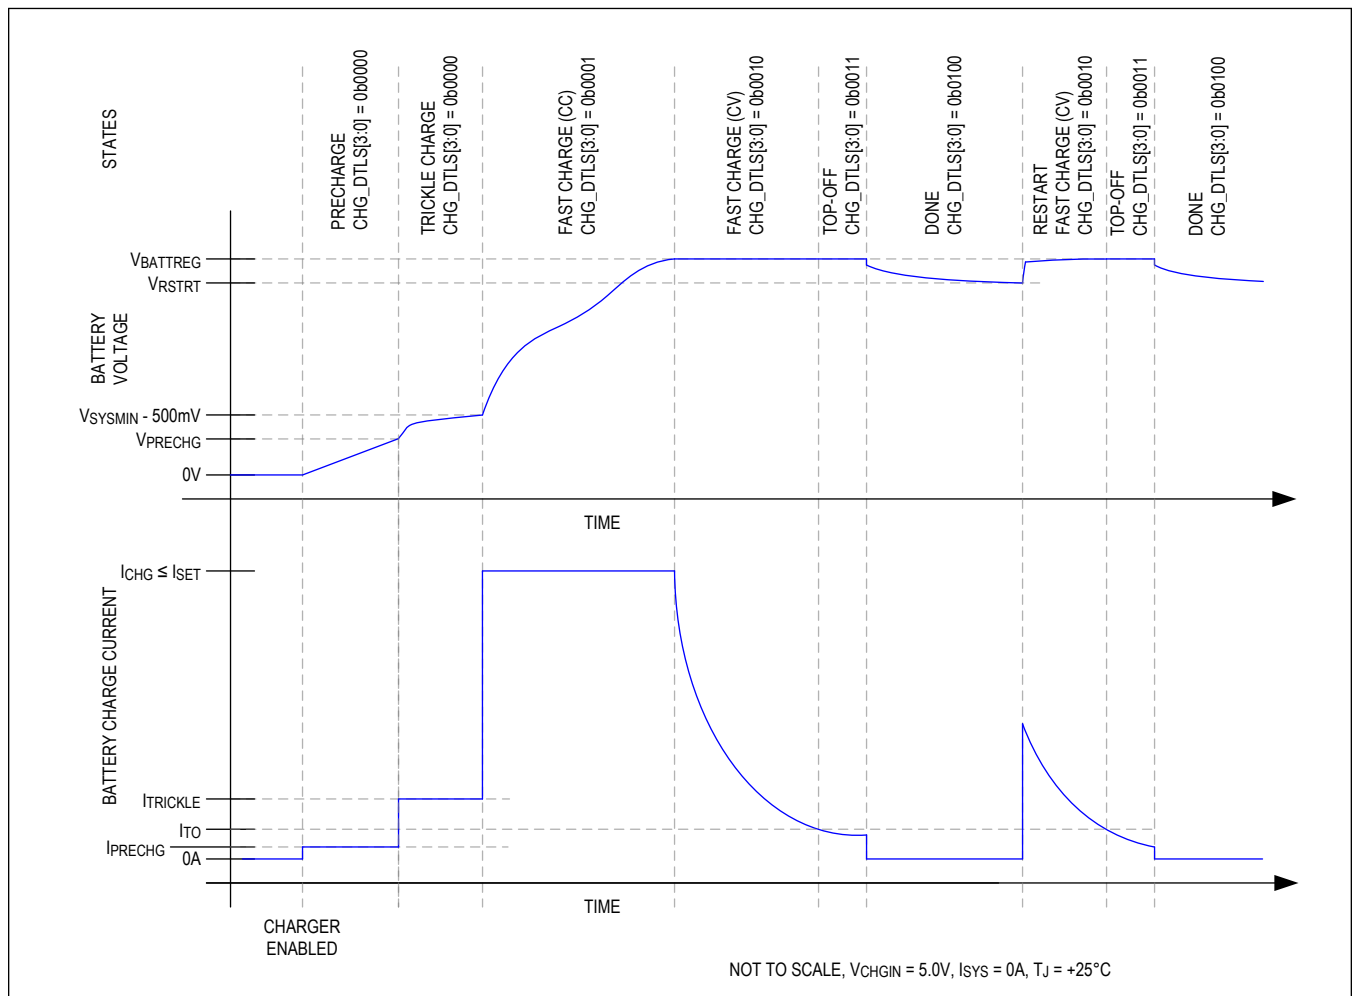
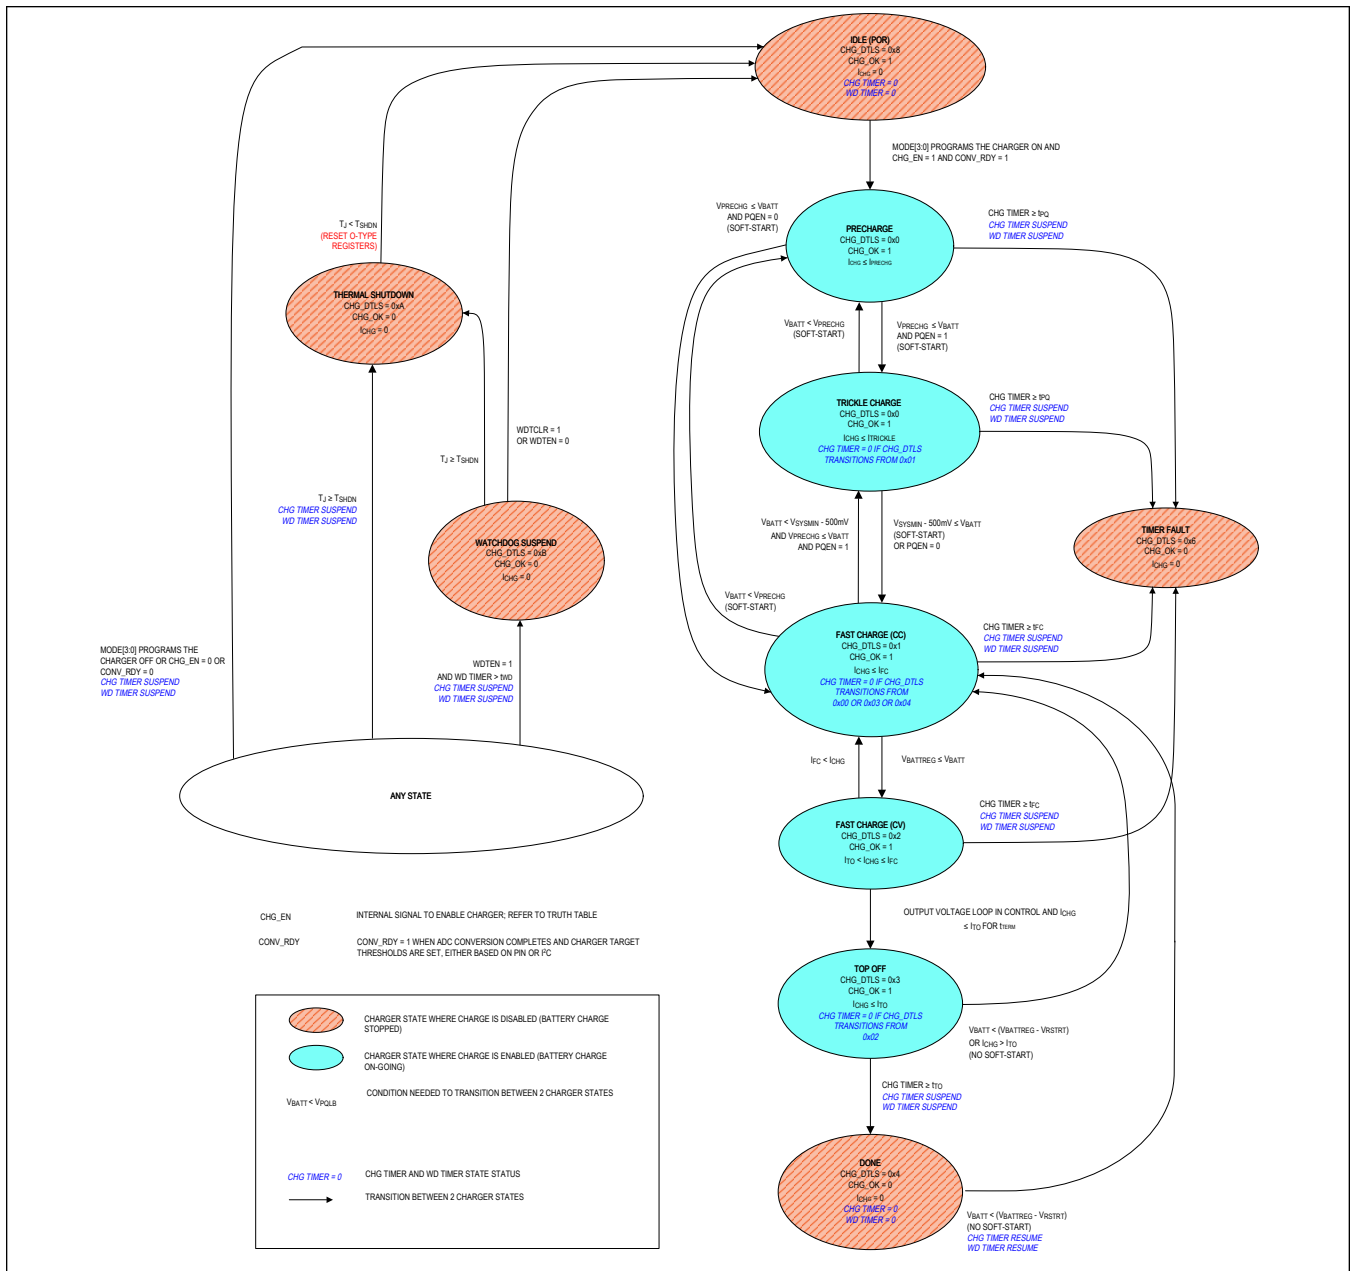

Figure 1. Li Battery Charge Profile
Figure 2. Charger State Diagram
The MAX77960/MAX77961 utilize several charging states to safely and quickly charge batteries as shown in Figure 1 and Figure 2. Figure 1 shows an exaggerated view of a Li+/Li-Poly battery progressing through the following charge states when there is no system load and the die and battery are close to room temperature: Prequalification → Fast-charge → Top-off → Done.
From any state shown in Figure 2 except thermal shutdown, the no input power or charger disabled state is entered whenever the charger is programmed to be off or the charger input CHGIN is invalid. After being in this state for tSCIDG, CHG\_DTLS is set to 0x08 and CHG\_OK is set to 1. A CHG\_I interrupt is generated if CHG\_OK was 0 previously.
As shown in Figure 2, the charger enters the precharge state when the battery voltage is less than  $V_{PRECHG}$ . After being in this state for  $t_{SCIDG}$ , a CHG\_I interrupt is generated if CHG\_OK was 0 previously, CHG\_OK is set to 1 and CHG\_DTLS is set to 0x00. In the precharge state, charge current into the battery is  $I_{PRECHG}$ .
As shown in Figure 2, the charger state machine is in trickle charge state when  $V_{PRECHG} < V_{BATT} < V_{SYSTEMIN} - 500mV$ . After being in this state for  $t_{SCIDG}$ , a CHG\_I interrupt is generated if CHG\_OK was 0 previously, CHG\_OK is set to 1 and CHG\_DTLS = 0x00.
As shown in Figure 2, the charger enters the fast-charge constant current (CC) state when  $V_{SYSTEMIN} - 500mV$  (typ)  $< V_{BATT} < V_{BATTREG}$ . After being in the fast-charge CC state for  $t_{SCIDG}$ , a CHG\_I interrupt is generated if CHG\_OK was 0 previously, CHG\_OK is set to 1 and CHG\_DTLS = 0x01.
As shown in Figure 2, the charger enters the fast-charge constant voltage (CV) state when the battery voltage rises to  $V_{BATTREG}$  from the fast-charge CC state. After being in the fast-charge CV state for  $t_{SCIDG}$ , a CHG\_I interrupt is generated if CHG\_OK was 0 previously, CHG\_OK is set to 1 and CHG\_DTLS = 0x02.
In the fast-charge CV state, the battery charger maintains  $V_{BATTREG}$  across the battery and the charge current is less than or equal to  $I_{FC}$ . As shown in Figure 1, charger current decreases exponentially in this state as the battery becomes fully charged.
As shown in Figure 2, the top-off state can only be entered from the fast-charge CV state when the charger current decreases below  $I_{TO}$  for  $t_{TERM}$ . After being in the top-off state for  $t_{SCIDG}$ , a CHG\_I interrupt is generated if CHG\_OK was 0 previously, CHG\_OK is set to 1, and CHG\_DTLS = 0x03. In the top-off state the battery charger maintains  $V_{BATTREG}$  across the battery and typically the charge current is less than or equal to  $I_{TO}$ .
As shown in Figure 2, the battery charger enters its done state after the charger has been in the top-off state for  $t_{TO}$ . After being in this state for  $t_{SCIDG}$ , a CHG\_I interrupt is generated only if CHG\_OK was 0 previously, CHG\_OK is set to 0 and CHG\_DTLS = 0x04.
The battery charger provides both a charge timer and a watchdog timer to ensure safe charging. As shown in Figure 2, the charge timer prevents the battery from charging indefinitely. The time that the charger is allowed to remain in its prequalification states is  $t_{PQ}$ . The time that the charger is allowed to remain in the fast-charge CC and CV states is  $t_{FC}$ , which is programmable with FCHGTIME. Finally the time that the charger is in the top-off state is  $t_{TO}$  which is programmable with TO\_TIME. Upon entering the timer fault state a CHG\_I interrupt is generated without a delay, CHG\_OK is cleared and CHG\_DTLS = 0x06.
The charger is off in the timer fault state. The charger can exit the timer fault state when the charger is programmed to be off then on again through the MODE bits or when DISQBAT pin is toggled from L-H-L. Alternatively, the charger input can be removed and reinserted to exit the timer fault state (see the ANY STATE bubble in Figure 2).
The battery charger provides both a charge timer and a watchdog timer to ensure safe charging. As shown in Figure 2, the watchdog timer protects the battery from charging indefinitely in the event that the host hangs or otherwise cannot communicate correctly. The watchdog timer is disabled by default with WDTEN = 0. Enable the feature by setting WDTEN = 1. With watchdog timer enabled, the host controller must reset the watchdog timer within the timer period ( $t_{WDT}$ ) in order for the charger to operate properly. Reset the watchdog timer by programming WDTCLR = 0x01.
As shown in Figure 2, the state machine enters the thermal shutdown state when the junction temperature ( $T_J$ ) exceeds the device's thermal shutdown threshold ( $T_{SHDN}$ ). When  $T_J$  is close to  $T_{SHDN}$ , the charger would have already folded back the input current to 0A, (see the Thermal Foldback section for more details), so the charger and the DC-DC are effectively off. Upon entering this state, CHG\_I interrupt is generated if CHG\_OK was 1 previously, CHG\_OK is cleared, and CHG\_DTLS = 0x0A.